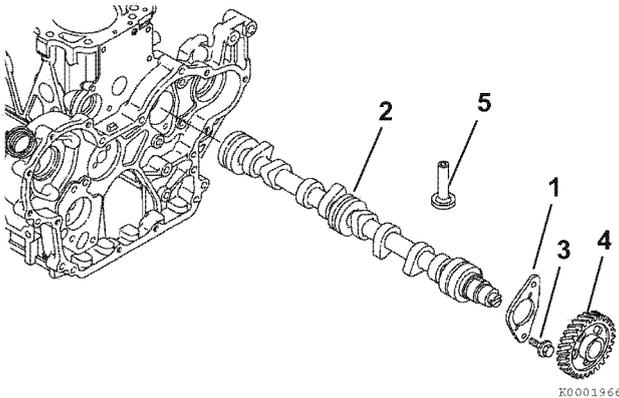

Figure 6-54
- Remove the two bolts (3, **Figure 6-54**) retaining the camshaft thrust plate (1, **Figure 6-54**).
- Rotate the engine in the engine stand so that gravity causes the tappets (5, **Figure 6-54**) to drop away from the camshaft lobes.
- Slowly pull the camshaft (2, **Figure 6-54**) assembly out of the engine being careful not to damage the front camshaft bushing.
- Remove the camshaft drive gear (4, **Figure 6-54**) only if the gear or camshaft require replacement. Use a knife-edge puller and a press to remove the gear. The gear is a shrink-fit and will need to be heated to 356 - 392 °F (180 - 200 °C) to remove.